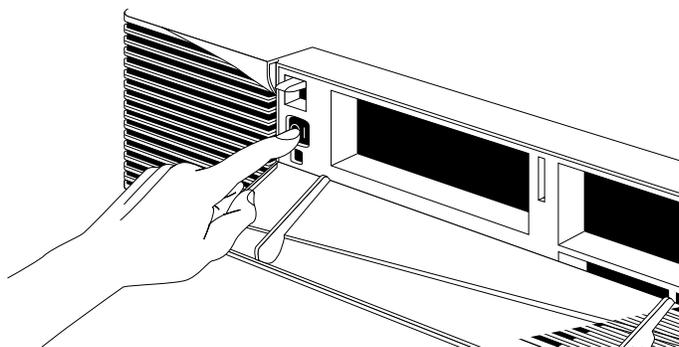

Figure 2-2 Turning off the System Power
2. Press and release the power switch, as shown in Figure 2-2. The system will power off systematically within the next minute.